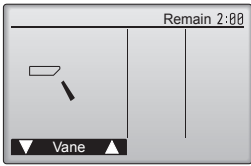

Fig. 6-7
- ① Check the auto vane with the **[F1]** **[F2]** buttons. (Fig. 6-7)
- ② Press the button to return to "Test run operation".
- ③ Press the button.